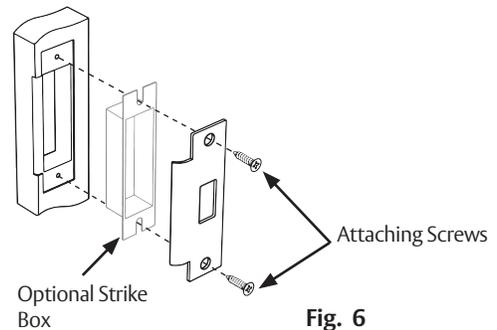

Fig. 6
6. **Install Strike Plate** using two #12 x 1" combination screws (Fig. 6):